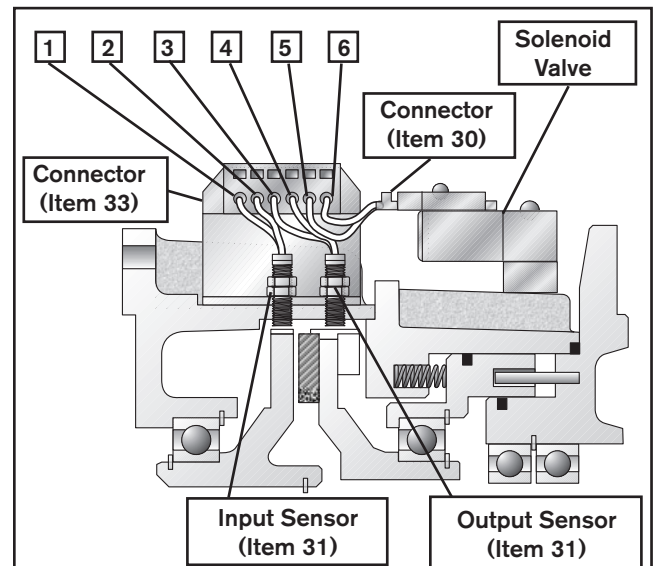

FIGURE 6
1. Connect the Red and Black leads from the Connector (Item 30), located on the Solenoid Valve, to Terminals 5 and 6 of the Connector (Item 33) by pushing a screwdriver into the slot on the top of the Connector and then inserting the Red and Black leads (See Figures 6 and 7).
2. Connect the Brown and Blue leads from the Input Sensor (Item 31) to Terminals 1 and 2 of the Connector (Item 33) by pushing a screwdriver into the slot on the top of the Connector and then inserting the Brown and Blue leads (See Figures 6 and 7).
3. Connect the Brown and Blue leads from the Output Sensor (Item 31) to Terminals 3 and 4 of the Connector (Item 33) by pushing a screwdriver into the slot on the top of the Connector and then inserting the Brown and Blue leads (See Figures 6 and 7).